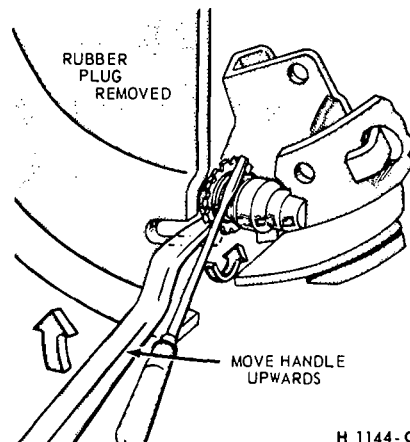

FIG. 13—Backing Off Brake Adjustment
4. If the drum will not come off, remove the rubber cover from the brake backing plate. Insert a narrow screwdriver through the slot and disengage the adjusting lever from the adjusting screw. While holding the adjusting lever away from the screw, back off the adjusting screw with the brake adjusting tool (Fig. 13). **Be very careful not to burr, chip, or damage the notches in the adjusting screws; otherwise the self-adjusting mechanism will not function properly.**
2. Remove the hub cap and wheel. Remove the three Tinnerman nuts and remove the brake drum. If the drum will not come off, remove the rubber cover from the backing plate. Insert a narrow screwdriver through the hole in the backing plate, and disengage the adjusting lever from the adjusting screws. While holding the adjusting lever away from the adjusting screw, back off the adjusting screw with the brake adjusting tool (Fig. 13). **Be very careful not to burr, chip or damage the notches in the adjusting screw; otherwise, the self-adjusting mechanism will not function properly.**